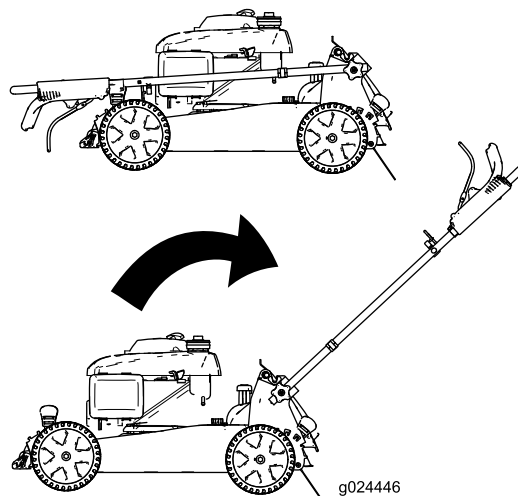

Figure 4
2. Move the handle to the operating position (Figure 4).